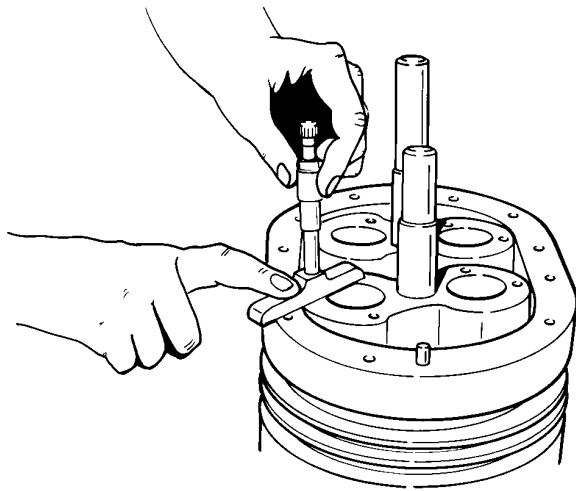

FIGURE 19
5. Position blower so that impellers are vertical, with the drive end on top. It will be necessary to use blocks in order for the unit to set level. Measure the total end clearance using a depth micrometer (see FIGURE 19).